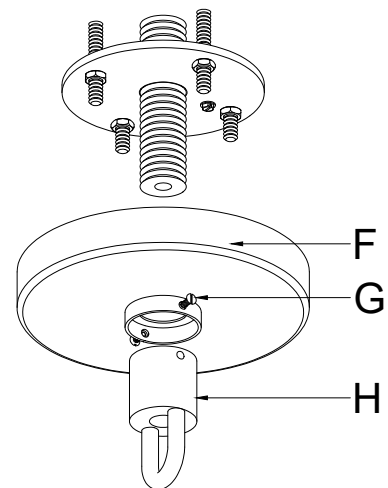

FIGURE 02
3. Place the Main Canopy(F) over the Collar loop(H) and Nipple(E) all the way to the ceiling and tighten by using (2pcs) sets screw(G) on the Collar loop(H). (see fig. 02)